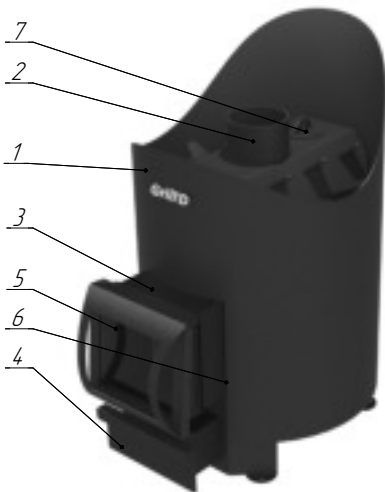

Fig. 3
Overall view and location of the heater main elements are shown in Figure 3. The firebox of Aurora heater (6) is fabricated of high duty rolled steel. Use of such steel increases the heater's durability and service life taking into account the firebox wall thickness of 3 mm, while the most critical elements are made of 5 mm thick steel.